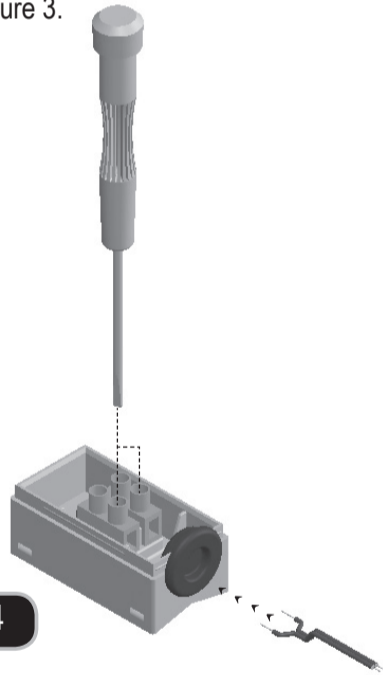

Figure 4
2) Connect cables to terminal block. See Figure 4.